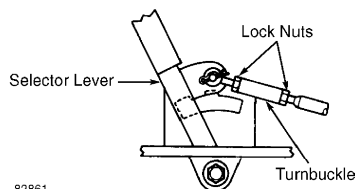

Fig. 5: Adjusting Shift Linkage (4WD Pathfinder & Pickup)
2) Tighten turn buckle until selector lever moves toward the "R" range without pushing button. Back off turn buckle one turn. Tighten lock nuts to 36-48 INCH lbs. (4-6 N.m). Ensure selector moves smoothly. See Fig. 5.